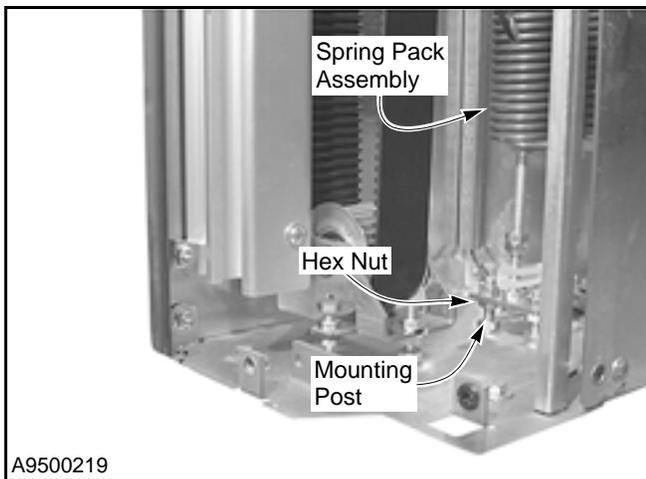

Figure 68
12. Attach the spring pack to the mounting posts on the base plate. Tighten the *lower nuts* against the bottom of the mounting plate to retain the preload setting of the spring pack. (See Figure 68.)